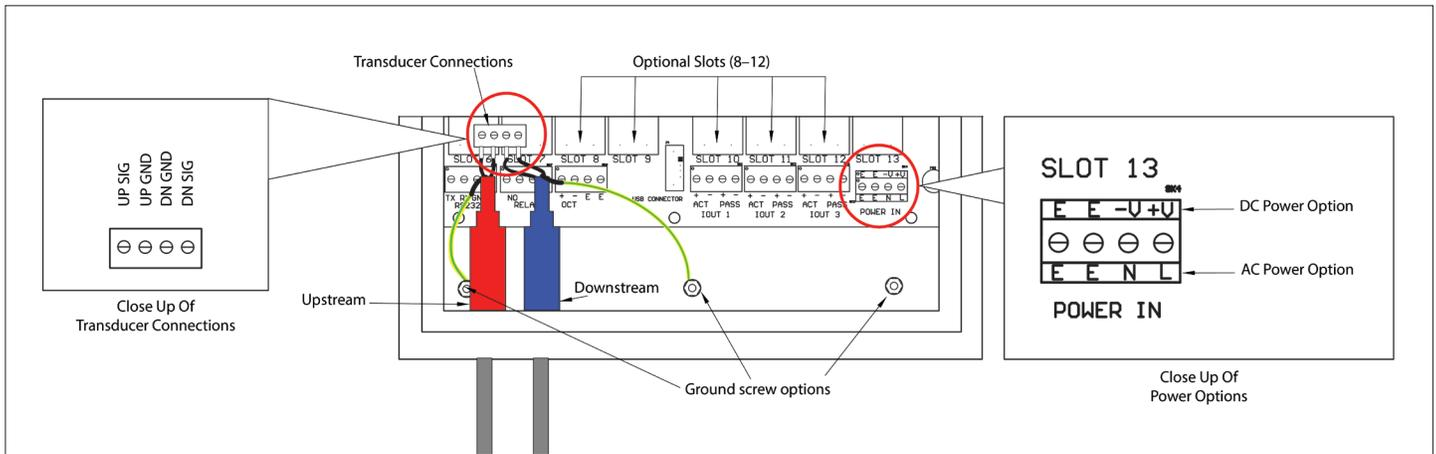

Figure 1. 207i AC and DC Power Options: Minimum Required Wiring
- Option P2: DC powered, 9-36 VDC, 0.5 Amps. (See Figure 1 “DC Power Option”).
- Option P3: AC powered, 100-240 VAC, 50-60 Hz, 0.5 Amps. (See Figure 1 “AC Power Option”).
- Open the hinged top cover of the electronics (see Figure 1). The power input terminal block is labeled “POWER IN.” On the AC power unit, it is labeled E E N L, and on the DC powered unit it’s labeled E E -V +V (See Figure 1).
Note: The standard 207i is equipped with 3 onboard 4-20mA current outputs, 1 relay, 1 OCT, RS-232, and USB port. Optional plug in slots (see Figure 1) can add PT 100 RTD inputs, 4-20mA inputs, and Modbus-RTU slave. For this Quick Install example, we will only be using the bare minimum to measure water flow.
- AC power connections: L to AC line (hot), N to neutral, E to safety earth ground; 100-240 VAC, 50-60 Hz, 0.5 Amps (See Figure 1)
- DC power connections; V+ to DC plus, V- to DC power return, the E connection are optional Earth ground. 9-36 VDC 0.5 Amps (See Figure 1).
2. Connect the upstream (red) transducer white wire to the UP SIG terminal on the ultrasonic board, and the black wire to the UP GND terminal. The green/yellow wire is the earth ground wire. It attaches to the enclosure ground screw as shown (See Figure 1).
3. Connect the downstream (blue) transducer white wire to the DN SIG terminal on the ultrasonic board and the black wire to the DN GND terminal. The green/yellow wire is the earth ground wire. It attaches to the enclosure ground screw as shown (See Figure 1).